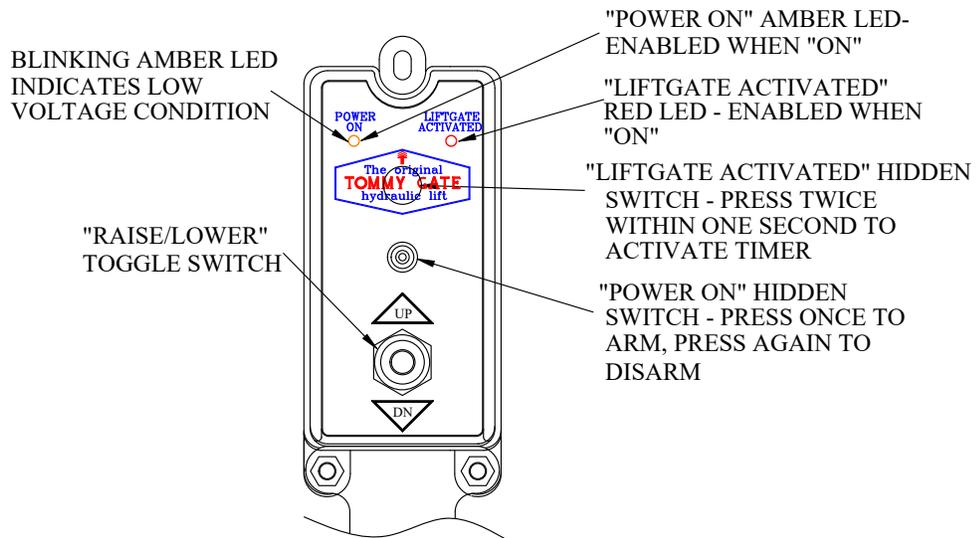

Figure 7: Control operation.
9. **Test** the control operation (Figure 7).